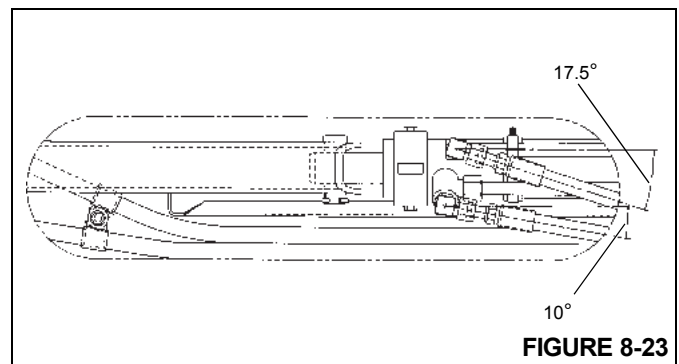

FIGURE 8-23
**NOTE:** Keep hydraulic fittings and hoses close to angles shown and as low as possible to prevent rubbing with the beam top plate and side plate, and for proper tracking during beam extension and retraction (Figure 8-23).